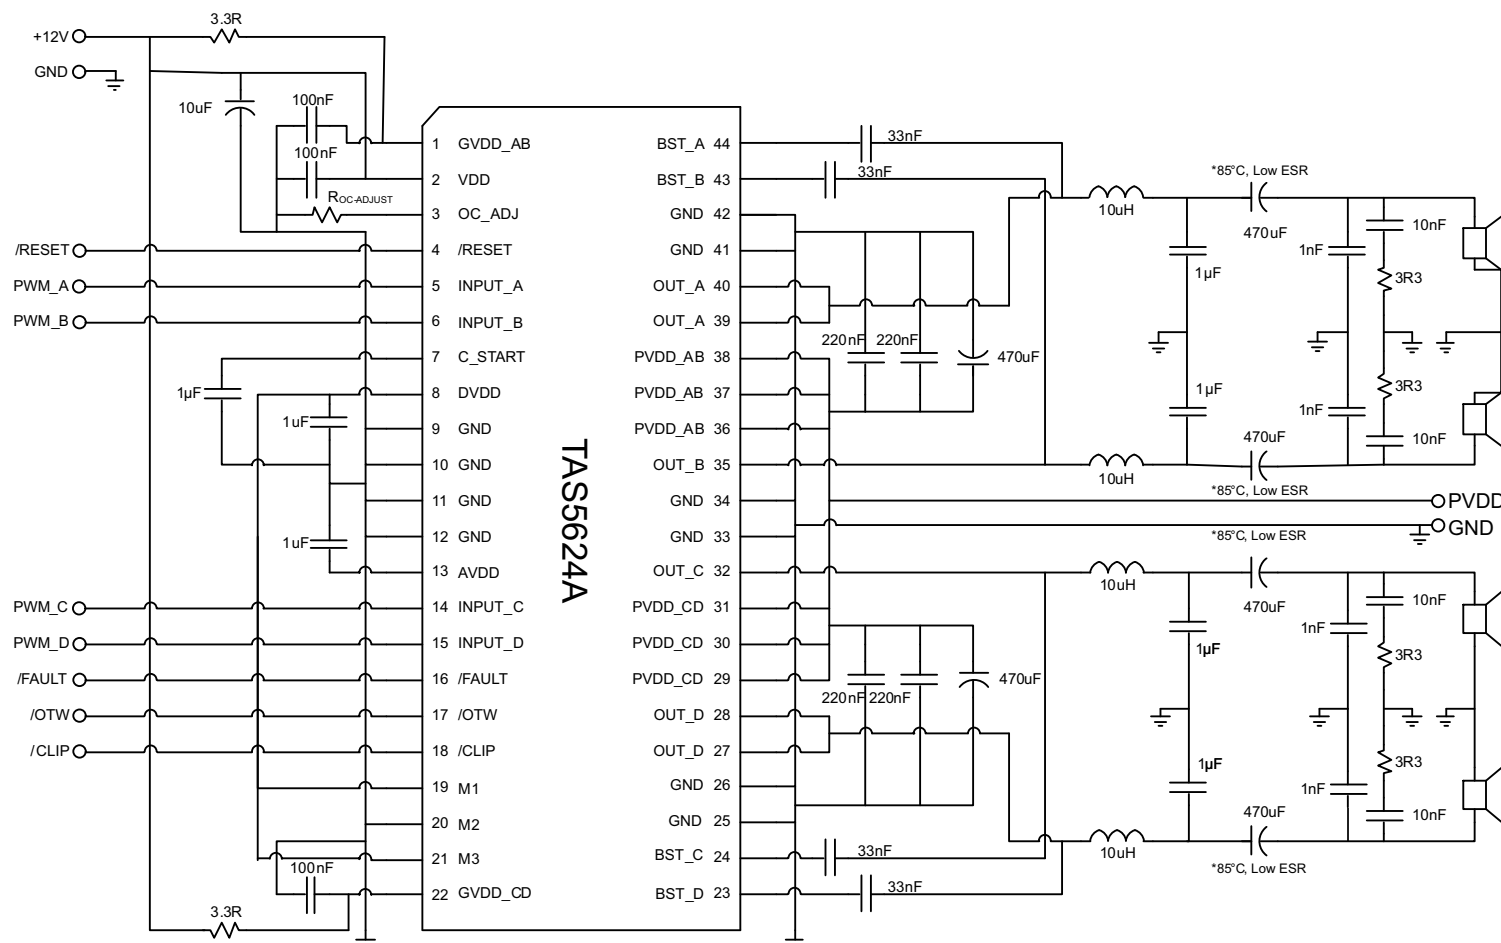

Figure 19. Typical (1N) SE Application
See Figure 19 for application schematic. In this application, four single-ended PWM inputs are used with AD modulation from the PWM modulator such as the TAS5558. AD modulation scheme is defined as PWM(+) is opposite polarity from PWM(-). The single-ended (SE) output configuration is often used to drive four independent channels in one TAS5622A device.
Design Requirements lists the design parameters of Figure 19.